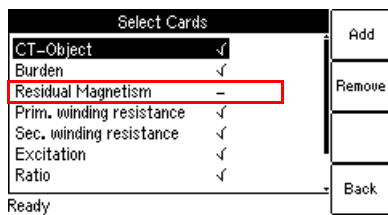

Figure 5-3: **Select Cards** page
2. For reasons of simplicity, we do not want to perform a residual magnetism measurement in our example CT test described here. Press the **Select Cards** soft key in the **CT-Object** card to open the **Select Cards** page. Check, and if necessary make the following test card selection (see Figure 5-3):